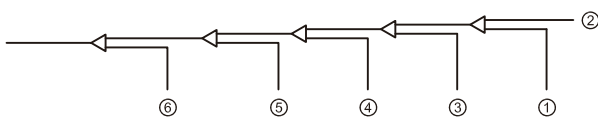

Figure 5.16
- Flush the other openings in the same manner, working in sequence from indoor unit A towards the outdoor units. Refer to Figure 5.16.